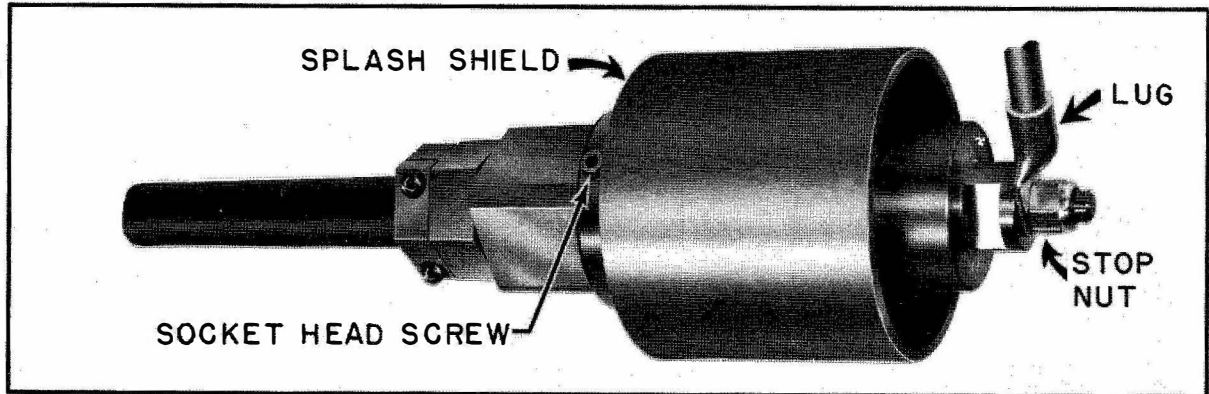

Figure 5-10j. End Seal Assembly
Step 9. - Slip the splash shield, small hole first, over the end cap and onto the body. Install the three 10-32 x 5/16 inch socket head screws and tighten with proper Allen wrench. Solder the lug to the antenna lead. Soldering of the lug is covered in section 8-2. Place the lug on the end cap stud and, while holding the cap with one wrench on the flats provided use a second wrench to screw the elastic stop nut on tightly (see figure 5-10j).